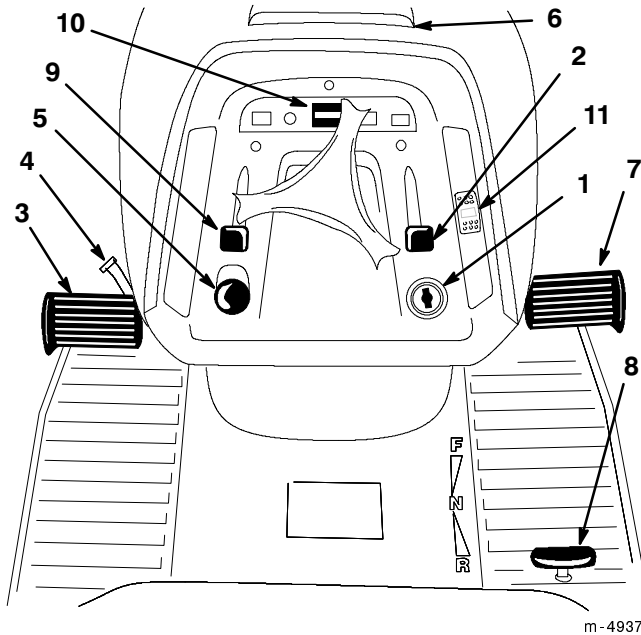

Figure 1
Become familiar with all the controls (Fig. 1) before you start the engine and operate the machine.
1. Push the brake pedal (Fig. 1) down and hold it in the depressed position.
2. Turn the parking brake lever (Fig. 1) counterclockwise and gradually take your foot off the brake pedal. The brake pedal should stay in the depressed (locked) position.
1. Push down on the brake pedal (Fig. 1). The parking brake lever should release.
2. Push the cruise control switch ON (Fig. 1).
The hour meter is located on the instrument panel (Fig. 1). It shows the total number of hours the machine has been operated.